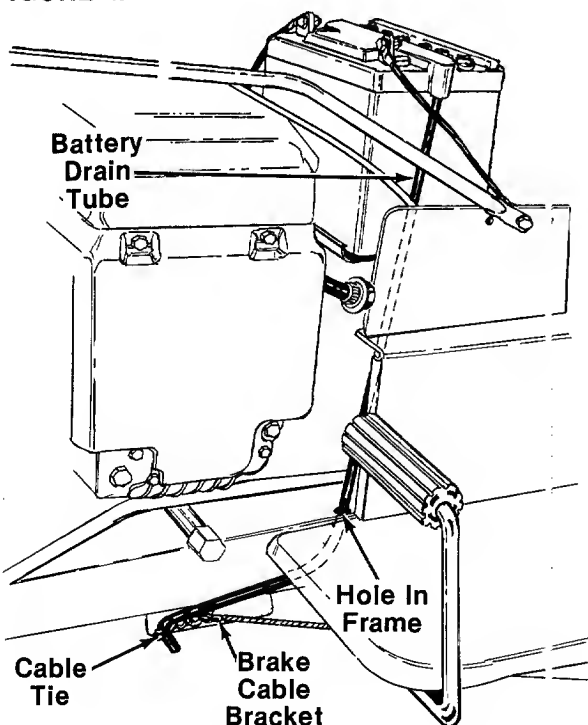

FIGURE 5.
6. Route the battery drain tube down through the hole in the frame, then forward to the brake cable bracket. See figure 5.
7. Secure drain tube to brake cable bracket with cable tie (H) as shown in figure 5. Cut off excess end of cable tie.